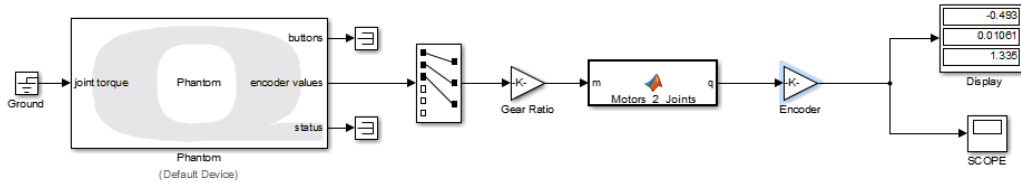

Figure 5: Updated diagram after converting from encoder counts to radians.
- Your updated Simulink diagram should look like Figure 5.